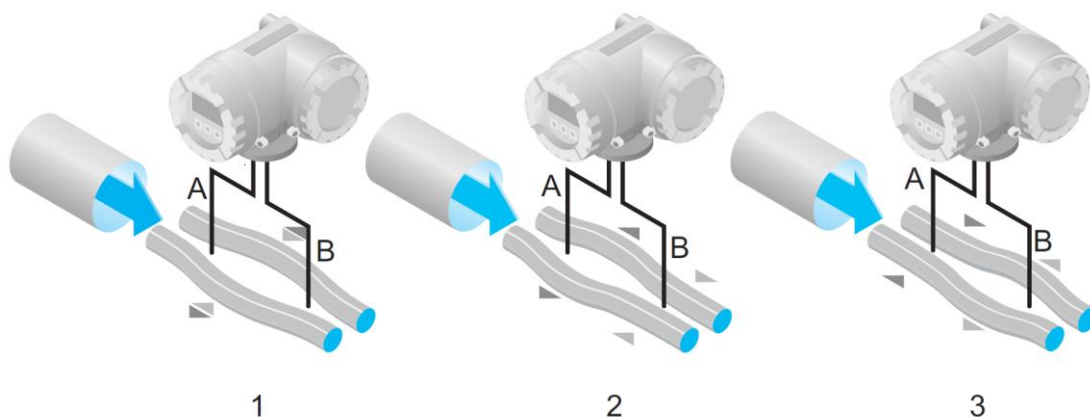

Figure 4-1 Coriolis Law
- In zero flow, when the fluid is stationary, two pipes in phase 1 (Figure 4-1/1) oscillate.
- Mass flow causes a decrease in oscillation at the pipe inlets (Figure 4-1/2) and acceleration at the outlets (Figure 4-1/3).